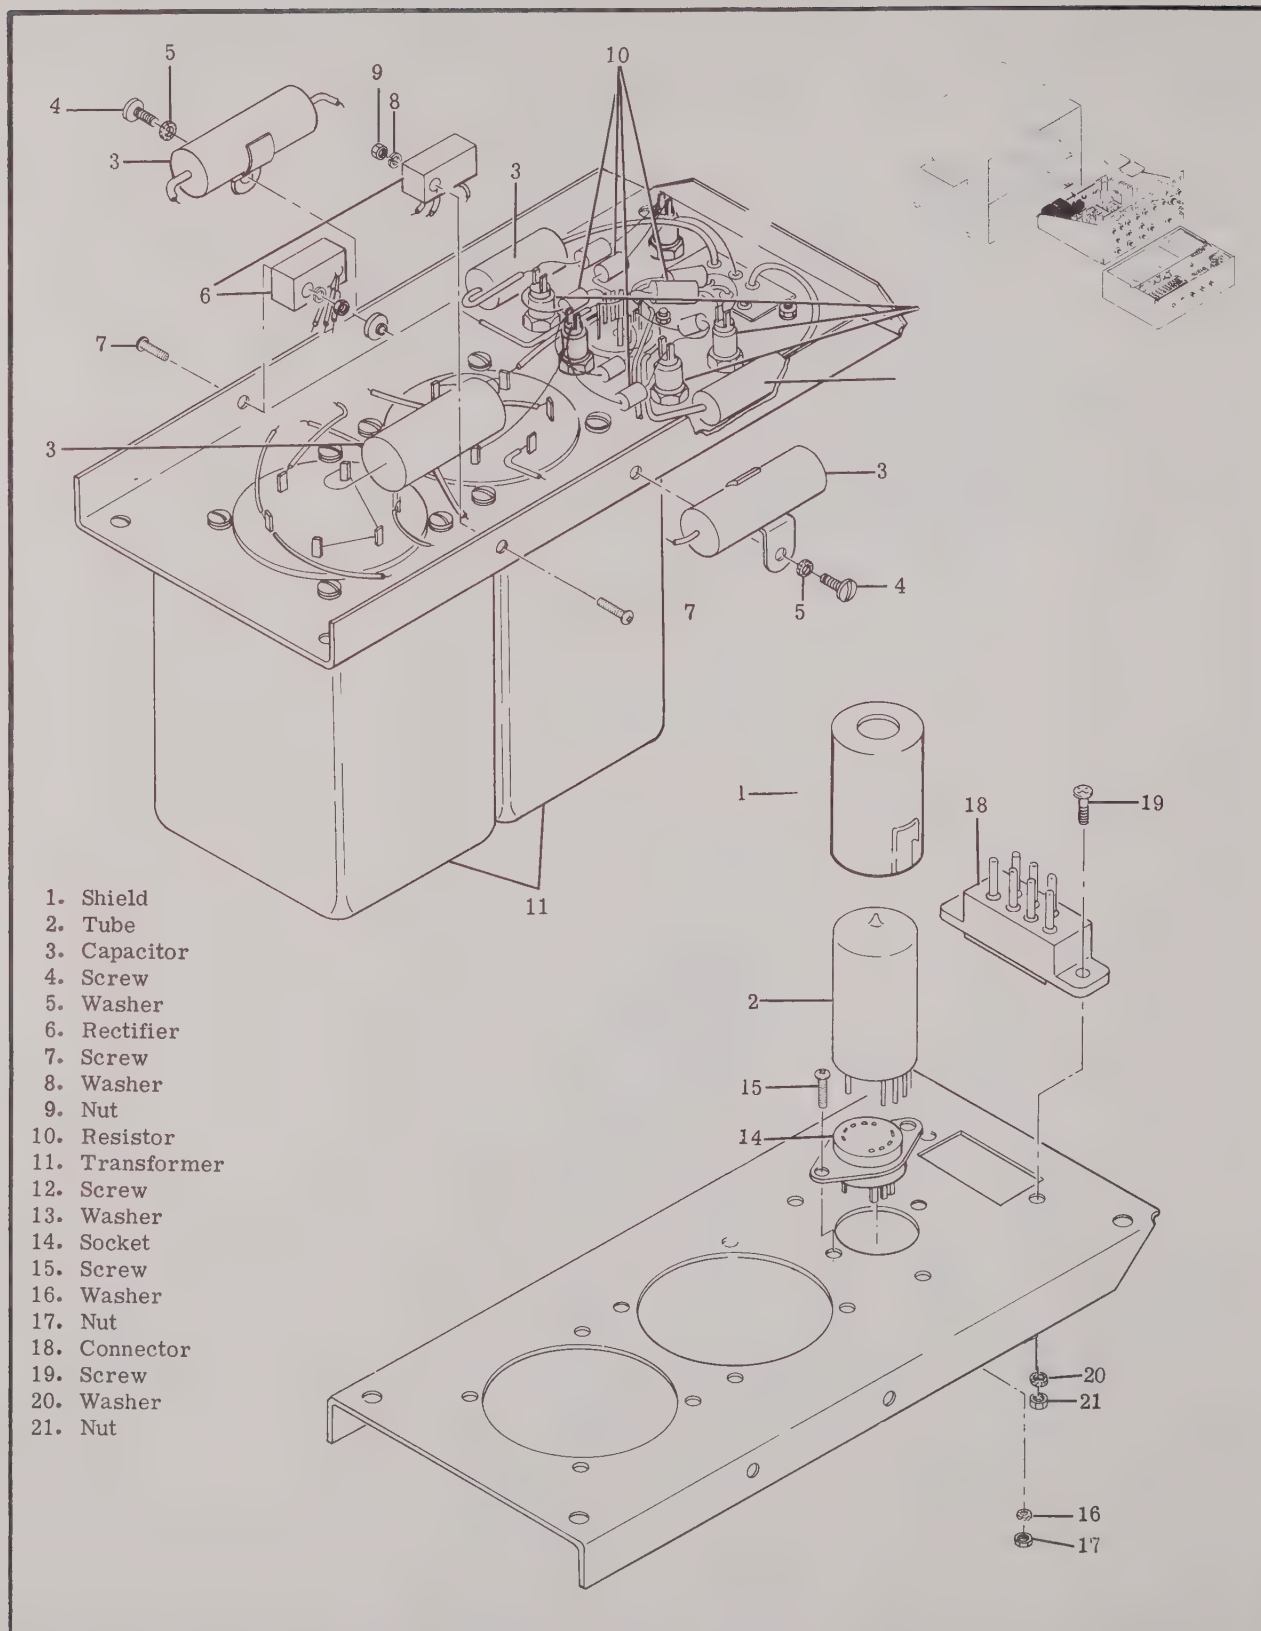

Figure 4-9. Sense Detector Unit
a. Remove electron tube shield (1, figure 4-9) and electron tube (2).
b. Remove capacitor (3) by removing screw (4), and washer (5).
c. Remove rectifier (6) by removing screw (7), washer (8) and nut (9).
d. Remove resistors (10) by unsoldering leads.
e. Remove transformer (11) by removing screw (12) and washer (13).
f. Remove electron tube socket (14) by removing screw (15), washer (16) and nut (17).
g. Remove connector (18) by removing screw (19), washer (20) and nut (21).